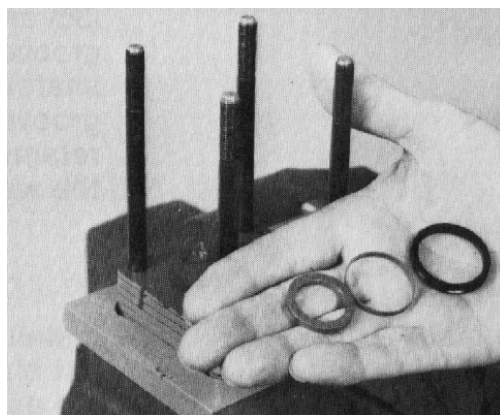

Figure 71
9. Assemble the seal back-up ring and face seal onto the seal spacer (Fig. 71).